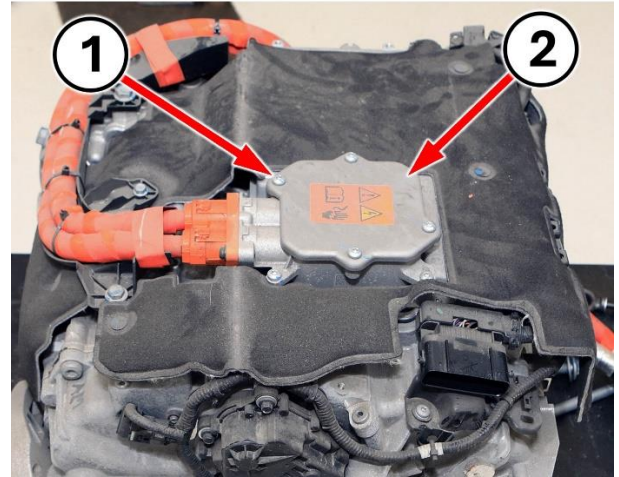

Figure 36 – EDM Cover Plate
74. Remove the fasteners securing the high voltage cover plate (Figure 36).
75. Remove the cover plate (Figure 36).